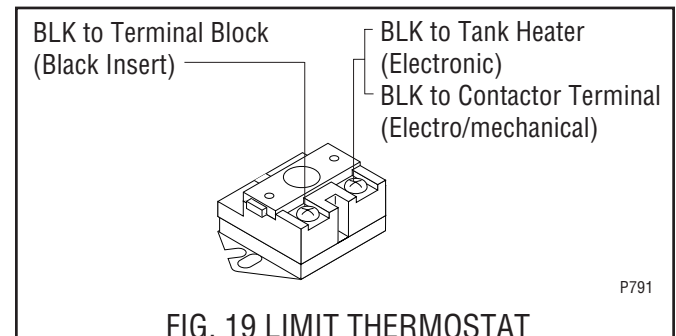

FIG. 19 LIMIT THERMOSTAT
4. Refer to Fig. 19 when reconnecting the wires.